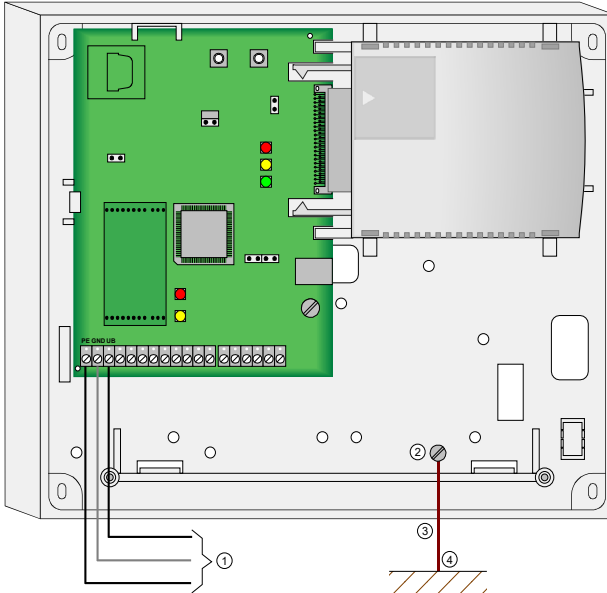

Fig. 14: Power supply and earth connections
Plug the interface modules ⑦ onto the basic module making sure they are correctly positioned as shown in Fig. 14.